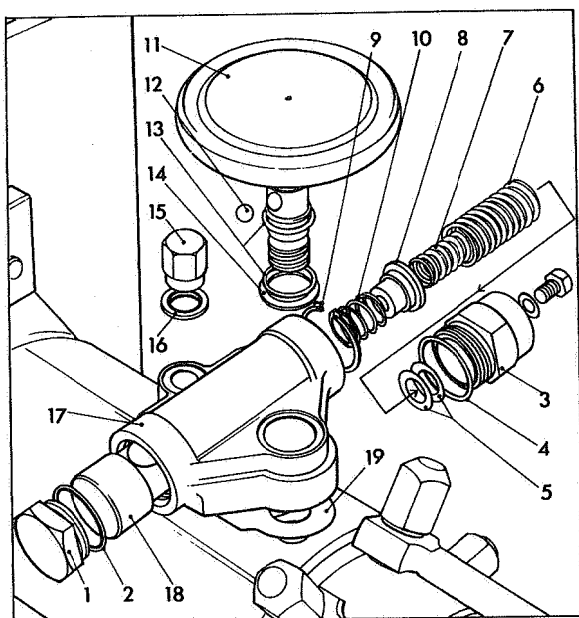

Fig 38 Dismantling auto advance device
Invert fixture in vice as shown in Fig 38. Remove piston plug (1), piston plug seal (2), piston spring cap (3), seal (4), shim washers (5) and outer piston spring (6). Remove inner piston spring (7), spring plate (8), housing circlip (9) and short piston spring (10).